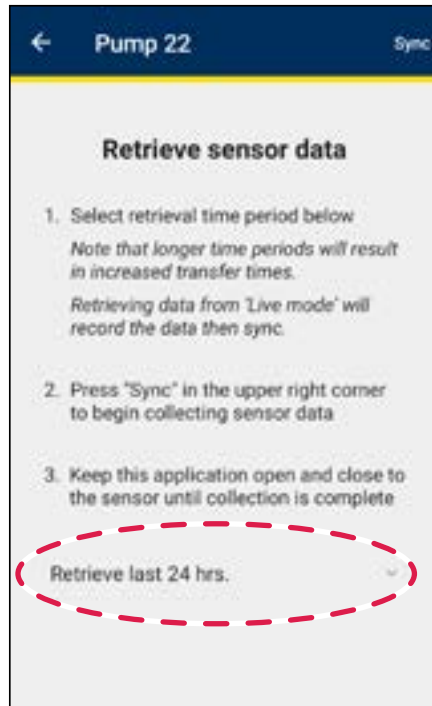

Figure 12
3. Use the drop down menu to select the time period for **Data Retrieval** (see figure 12). Selecting longer sync periods will result in longer transfer times.